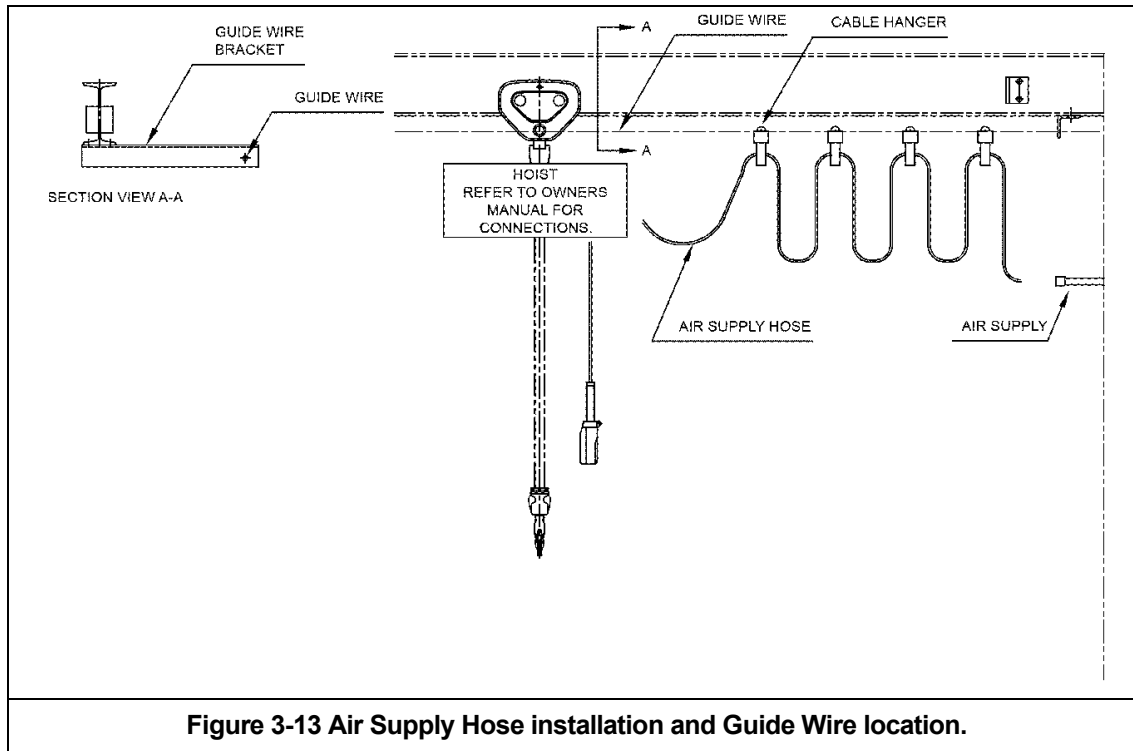

Figure 3-13 Air Supply Hose installation and Guide Wire location.
- Install a guide wire system parallel to the beam. (See **Figure 3-13**)